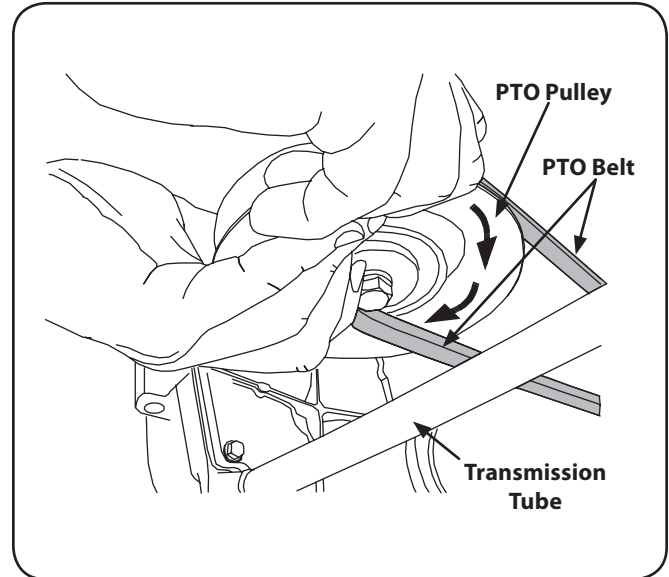

Figure 7-4
5. While still holding the belt downward, continue turning the PTO pulley until the belt rolls off the pulley. Refer to Figure 7-4.
- Pull the right side of the belt rearward and place the narrow V side of the belt into the PTO pulley. See Figure 7-4.
- While holding the belt and pulley together, rotate the pulley to the left (See Figure 7-4). Continue holding and rotating the pulley and belt until the belt is fully rolled into the PTO pulley.